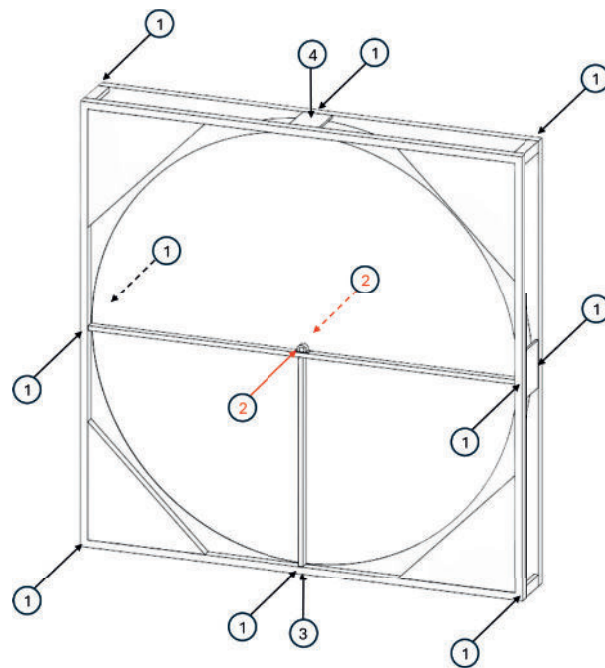

Figure 41: Model EQ force schedule.
- The maximum allow deformation in all positions in figures 41 and 43 is $\pm 1\text{mm}$.